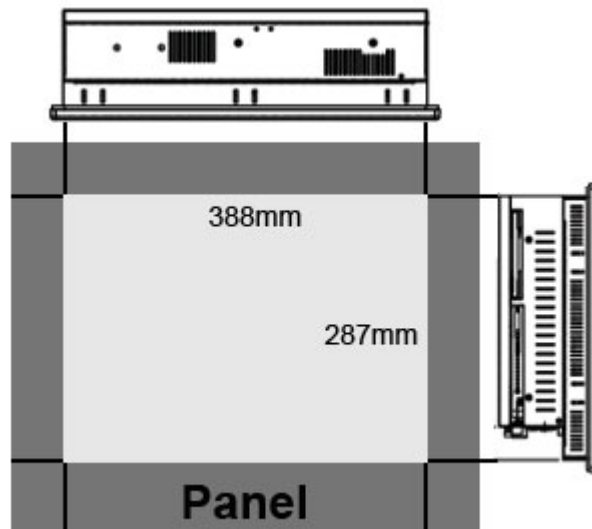

Figure 3-14: Cut the Panel
Step 2: Cut out a section from the panel that corresponds to the rear panel dimensions of the 2901280. Take care that the panel section that is cut out is smaller than the overall size of the metal frame that surrounds the 2901280 but just large enough for the rear panel of the 2901280 to fit through (see **Figure 3-14**).